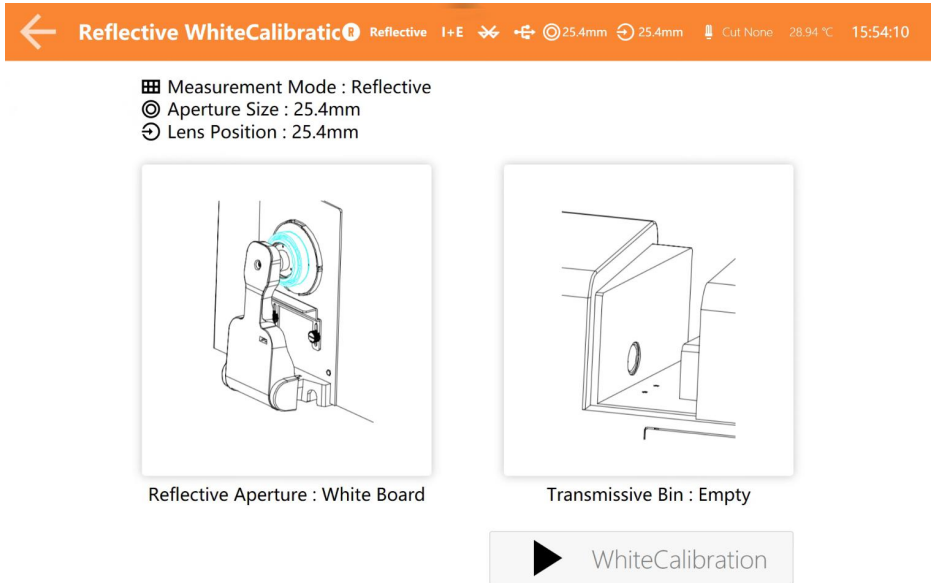

Figure 6 White Calibration
3. It will automatically enter White Calibration after Black Calibration is finished as shown in Figure 6. Place well white plate (the same step as how to place black cavity), then press measuring button to start white calibration, or click “←” to